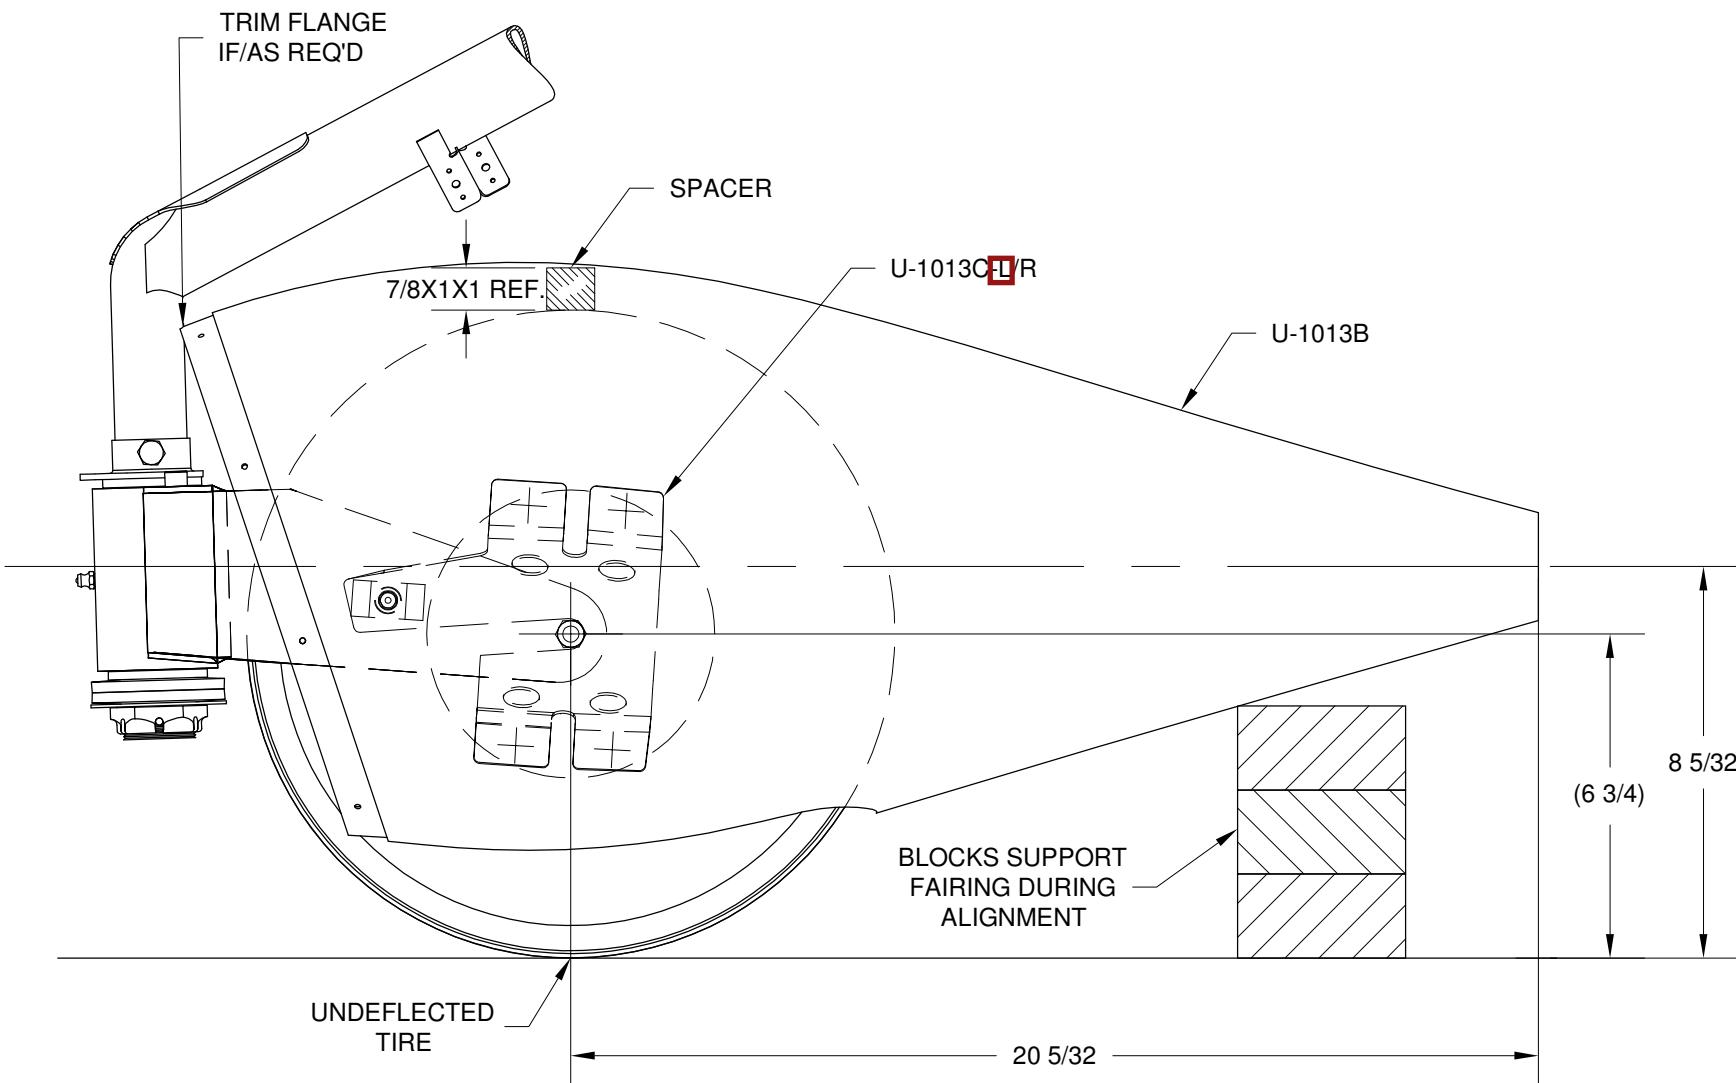

FIGURE 3: ALIGNING THE WHEEL FAIRING REAR
Step 3: Support the aft end of the U-1013B Wheel Fairing Rear using blocks as shown in Figure 3. Position the wheel fairing rear on the U-1013C_{L/R} Nose Wheel - Fairing Brackets using the dimensions given. Bend the nose wheel - fairing brackets as required to fit to the inside surface of the wheel fairing rear.